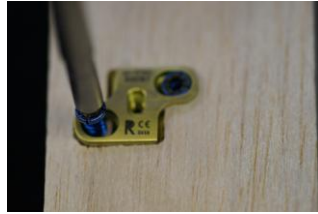

fig 6
- Using a motion perpendicular to the plane of the top of the screw caddy, pull the clocked screw driver with the attached screw and engaged cam straight up from the Caddy. The screw is now engaged in the clocked screw driver ready for insertion to the Plage and the locking cam mechanism is also engaged and ready to lock the screw (fig 6).